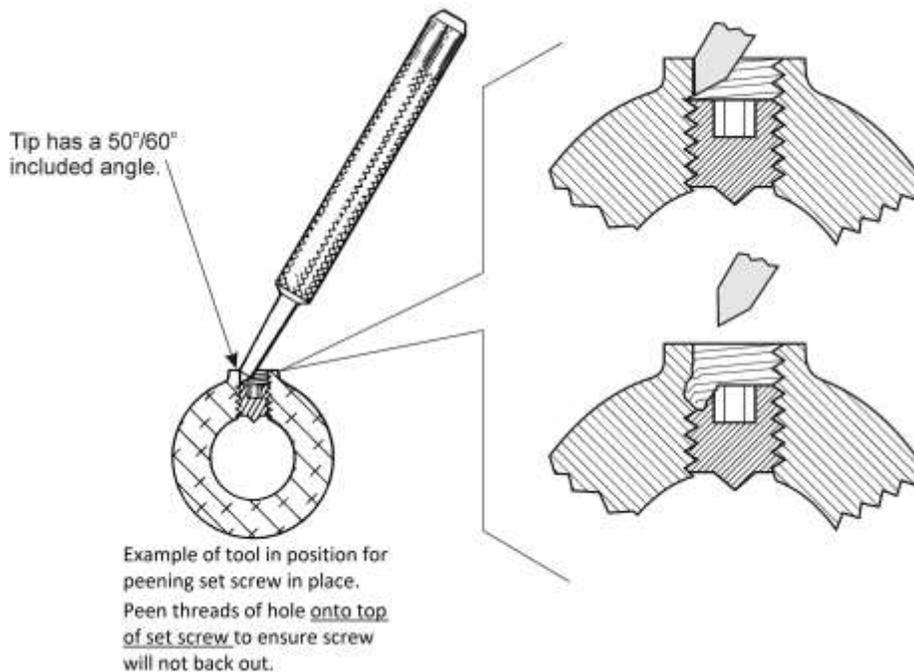

Figure 71
NOTICE: To ensure that there is adequate material in the set screw hole topeen on top of the screw, use a new set screw that is shorter than the one previously removed. A smaller diameter center punch could be necessary. Refer to Figure 71.
- (4) Use a smaller center punch (peening tool) with a 3/32-inch (2.38 mm) diameter at an approximate 50°/60° angle to peen the threads of the hole at the top of the taper above the set screw to prevent the set screw (as shown in Figure 71) from backing out.